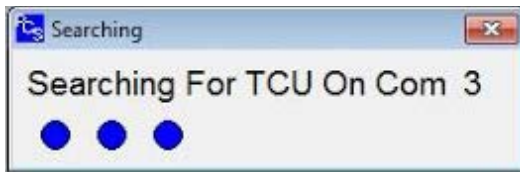

Figure 4
- o Once the software opens, it will attempt to connect to the TCU. **Reference Figure 4.**